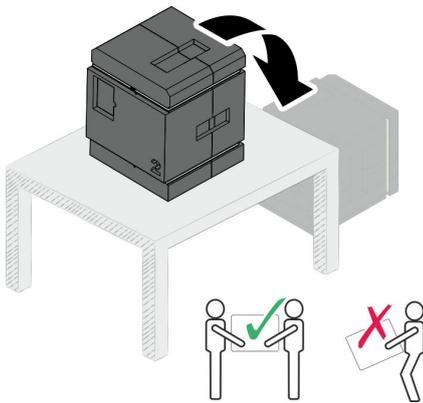

Fig. 98 Attaching the transport strap
10. Attach the transport straps and lift the robot box off the table rotated by 90° as shown in Fig. 98.